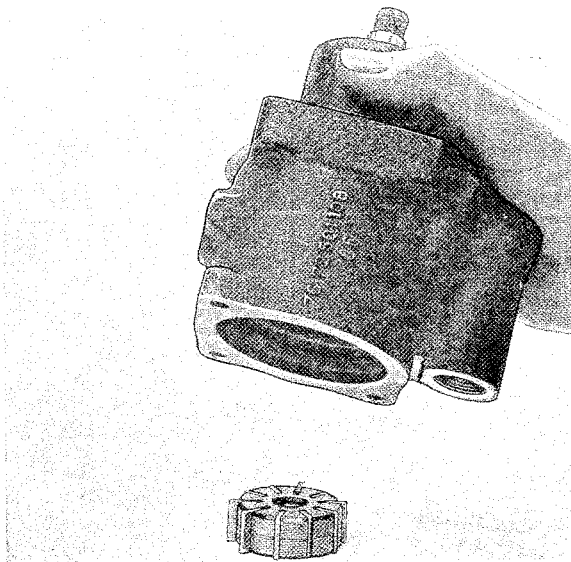

Fig. 6-96. Removing rotor
2. Remove the snap ring (20) with snap ring pliers.
3. Remove the cover (19), spring (22) and plate (18). Use snap ring pliers.
4. Shake out the intermediate piece (16) and rotor (25), see Fig. 6-96. If the intermediate piece does not come out easily, let it remain there until later on.
5. Remove the snap ring (5) at the drive end.
6. Carefully press out the shaft (4).